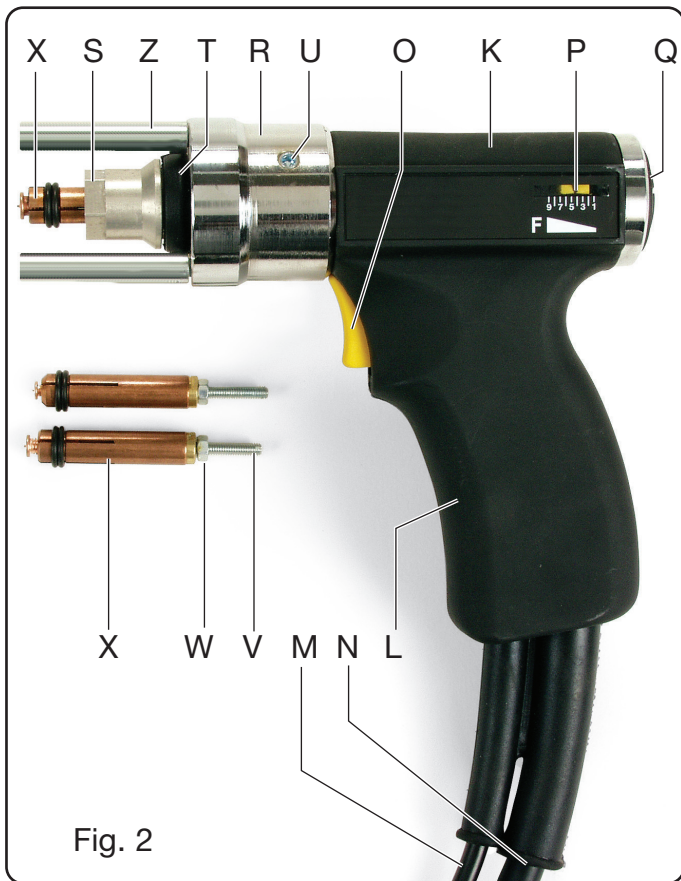

Fig. 2
Adjust the protrusion of the stud bolt from the front of the clamp to  $0.8 \div 1.2$  mm using the screw **V**, then tighten with the nut **W** (figure 2).
Insert the clamp **X** into the chuck of the gun (fig. 2), press until you feel it rest all the way down, and tighten the nut **S** using the 17-mm hexagon wrench provided.
- insert the chosen stud bolt in the clamp **X** (previously adjusted as described in Fig. 2)